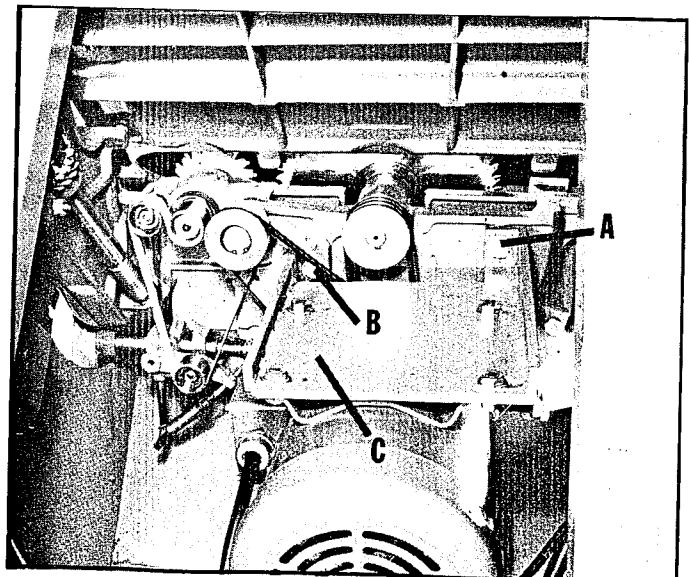

Fig. 56
1. To adjust V-belt tension, position the saw blade at a 45° cutting angle. Loosen bolts (A) and (B) Fig. 56. Press lightly on bracket (C) until belts are properly tensioned, and tighten bolts (B) and (A)